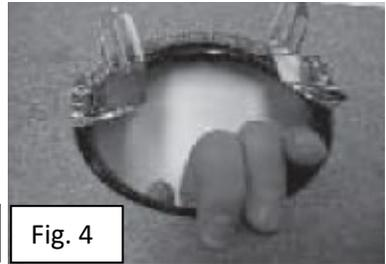

Fig. 4
- With the spring clips positioned upwards, insert flange into the ceiling cutout. [Fig. 4]